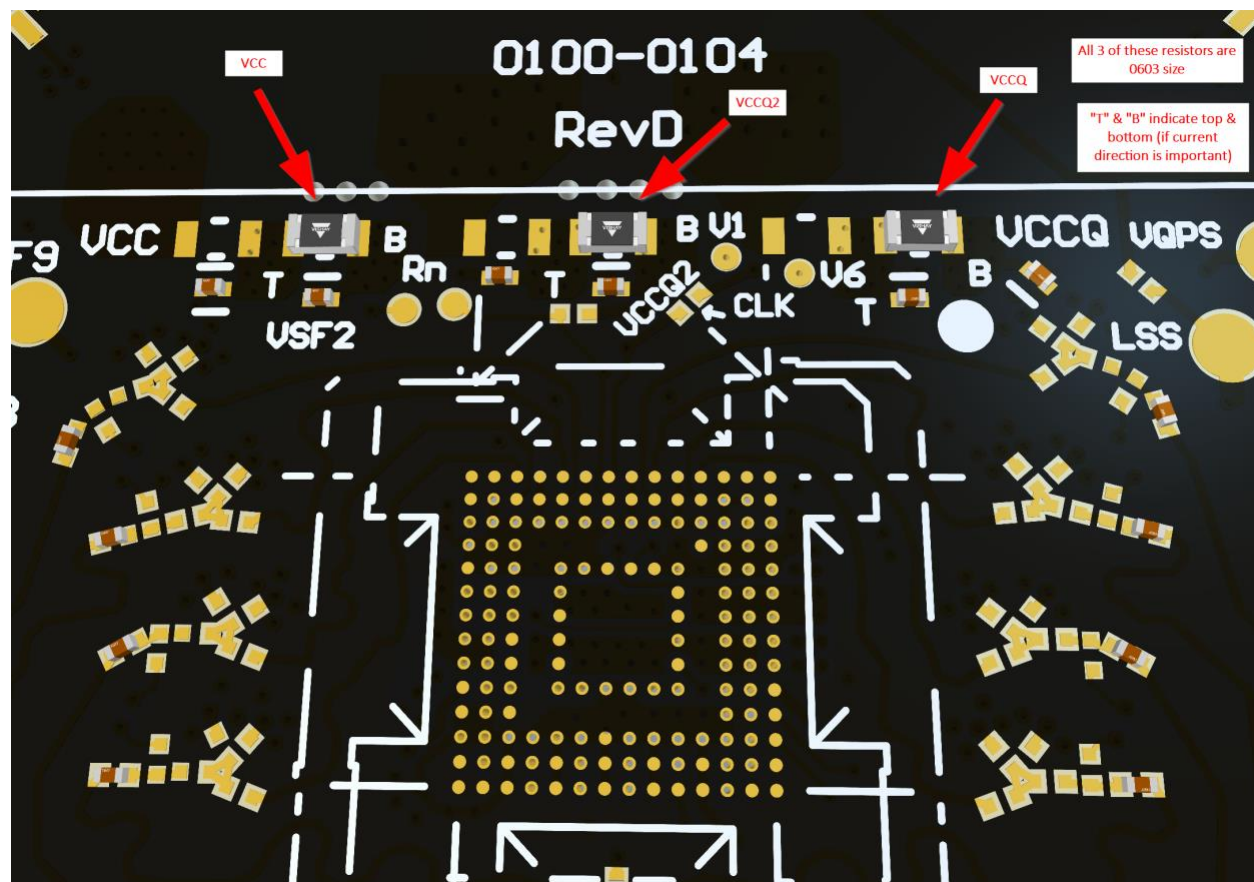

Figure 7 - Sense Resistor Location
The FG5AMPGR interposer board has sense resistors for the VCC, VCCQ and VCCQ2 power supplies, shown in FIGURE 7. Measure the current by using a current probe, such as the Keysight N2820. Remove the sense resistors from the board and replace them with new resistors, with resistance values selected based on the estimated current you will be measuring. Each resistor pad has a “T” and “B” label, which denotes the current flow direction from top (T) to bottom (B).